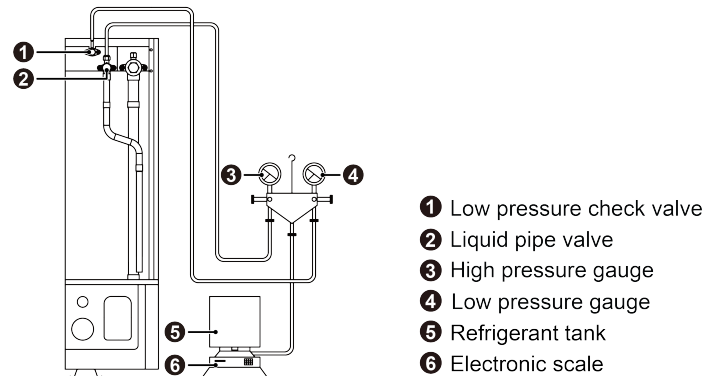

Fig.3.6.3
(2) Start-up charging of refrigerant.
Step 1: Close the refrigerant tank valve and reconnect the pipe of pressure gauge. Remove the pipe of low pressure gauge from the check port of gas pipe valve and connect it to the low pressure check valve (as shown in the Fig.3.6.3).